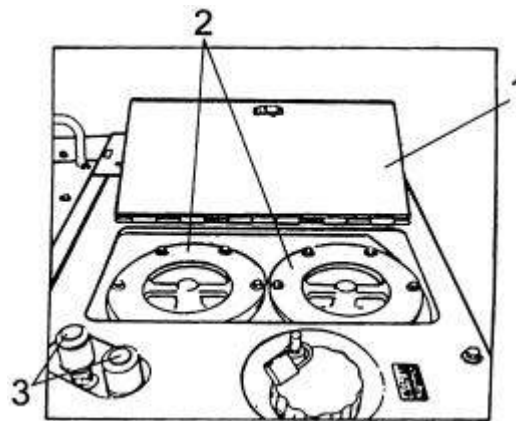
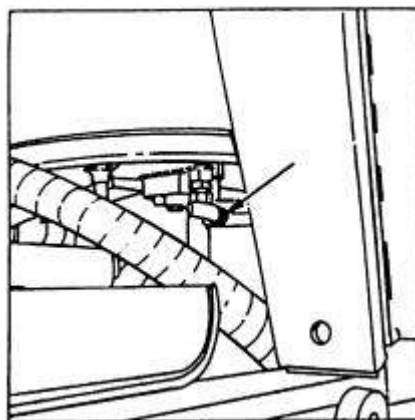

Fig. 5.49. Hydraulic Reservoir Oil Filters
Fig. 5.50. Hydraulic Reservoir Drain Plug
4. Open access cover 1, Fig. 5.49.
6. Remove the plug from the reservoir drain valve, Fig. 5.50.
7. Fit a short threaded pipe P/N 470-90-1008 into the end of a piece of hose P/N 470-90-1006 (enclosed in accessories). Screw the pipe into drain valve (4). Put the other end of the hose into a container large enough to hold the fluid from the reservoir.
9. Remove reservoir covers 2, Fig. 5.49.
2. Remove reservoir covers 2, Fig. 5.49.
8. Install reservoir covers 2, Fig. 5.49.